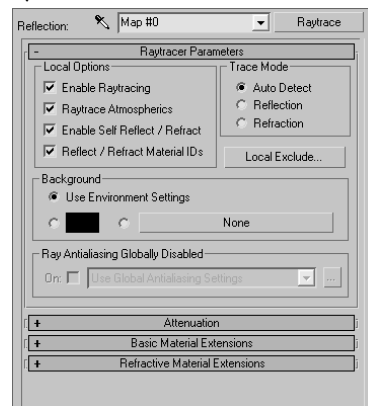

Figure 11.30
2. In the Maps rollout, click the mapping bar labeled *None* next to Reflections. Choose from the Raytrace map in the Material/Map browser, as shown here. Leave the Raytrace Map parameters at the default, as shown in Figure 11.30.